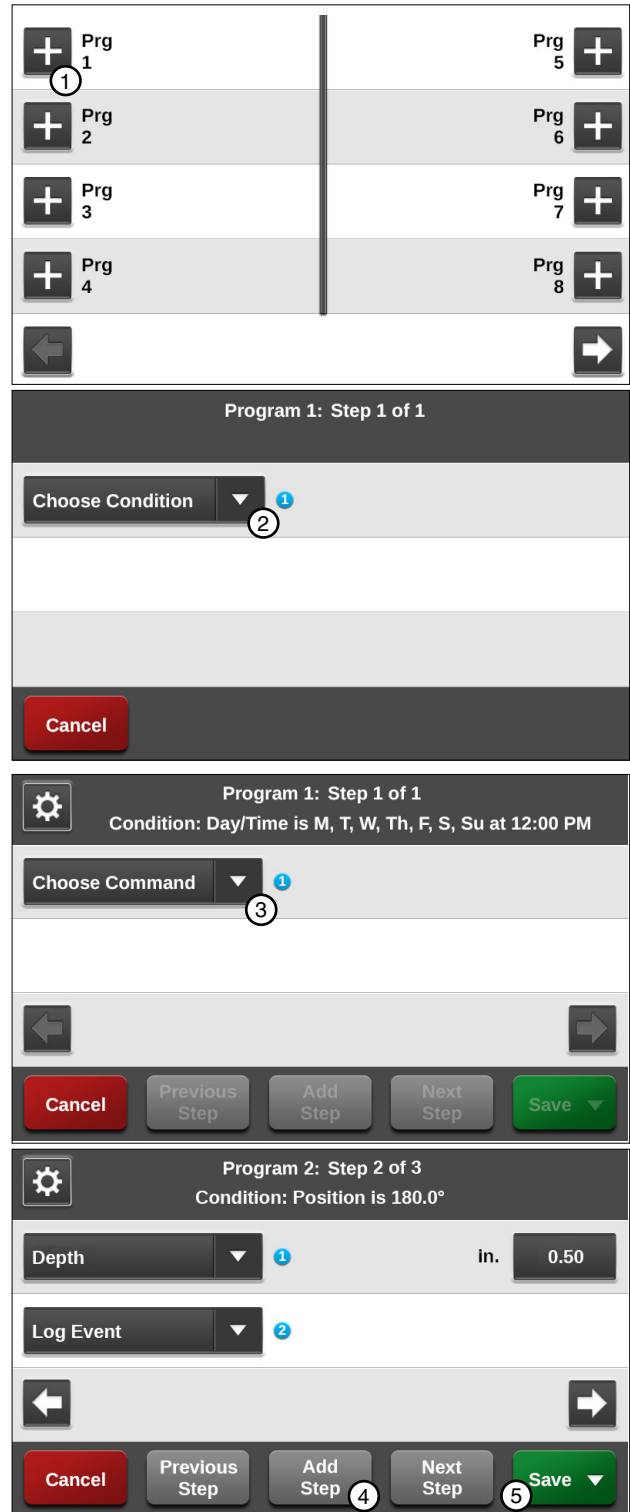

Figure 103-1 1. New Program 4. Add Step
2. Push the **New Program** button corresponding to the preferred program number as shown in Figure 103-1.
3. Select the **Choose Condition** drop-down menu and choose a condition for this step. Refer to Figure 103-1.
4. Select the **Choose Command** drop-down menu and choose a command. Refer to Figure 103-1.